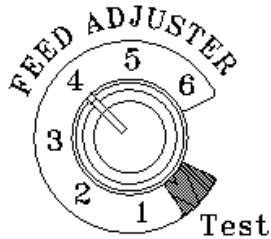
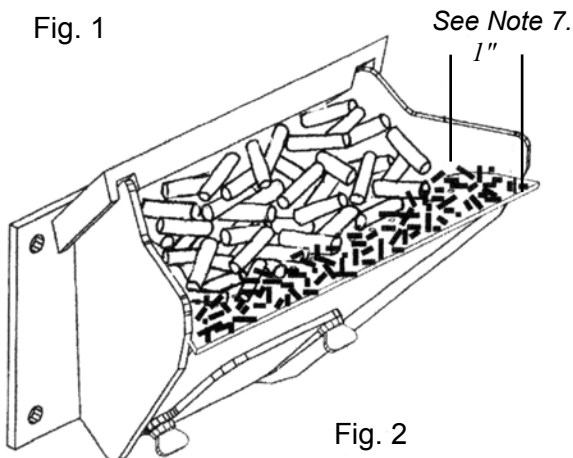

Fig. 1
Fig. 2
4. Adjust Feed Rate. If this is your first fire or you are trying different pellets, set the feed adjuster to #4, Fig. 1. This is a conservative number and will probably need to be increased. After you know a feed rate setting that works well, use that setting. Remember, if your feed rate is too high you may waste fuel.
7. Setting the feed adjuster # for maximum burn: With the unit burning in "AUTO", turn to "Stove Mode" and put the fan on "H". Set the Temperature Dial to #7. Allow the unit to burn for about 30 minutes and check ash on front of burn pot. Fig. 2. If the ash line is larger than 1", turn the feed adjuster from #4 to #5. Allow another 30 minutes of burn time and check again. If, at #6 setting, a 1" or less ash bed is not obtainable, it is not a problem. The 1" ash bed is only at maximum burn rate and during normal operation, the ash bed will be larger.
High output is determined by the feed rate setting. This setting, generally on #4, can be increased if higher burn rates are necessary (Fig. 1). The unit's maximum burn rate should not create less than 1" of ash on the burn pot front edge (See Fig.2). Overfeeding is not a safety concern, but fuel may be wasted if unburned pellets fall into the ash pan.
This allows for automatic ignition upon start-up only. The unit can then be set at any desired setting. The heat output and fuel consumption will remain constant regardless of room temperature (See Fig 4). The unit's maximum feed rate should not create less than 1" of ash on the burn pot front edge. See Fig 2.